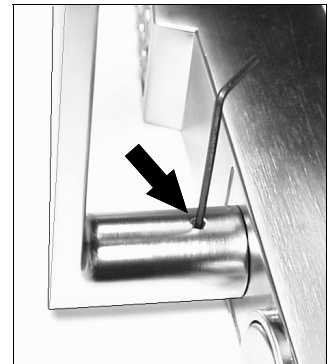

Fig. 3: Tighten lever set screw with 1/8" hex wrench
3. Install the lever with proper orientation for the lock/door hand used. Tighten the set screw using a 1/8" hex wrench (see Fig. 3).